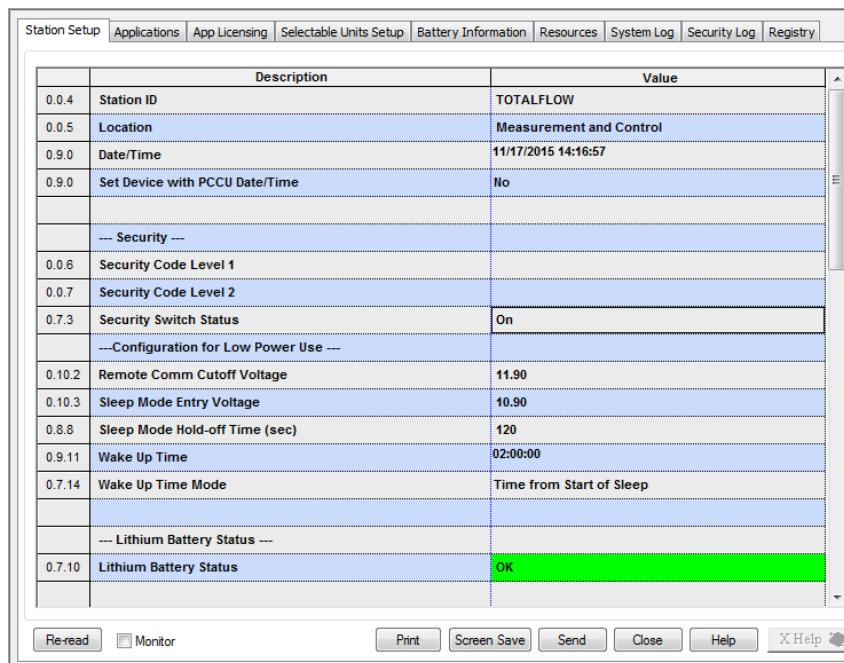

Figure 30: Station Setup screen
3. Verify that the Lithium Battery Status shows **OK** (Figure 30). If the status is Low Voltage or Not Connected, the field has a red bar.